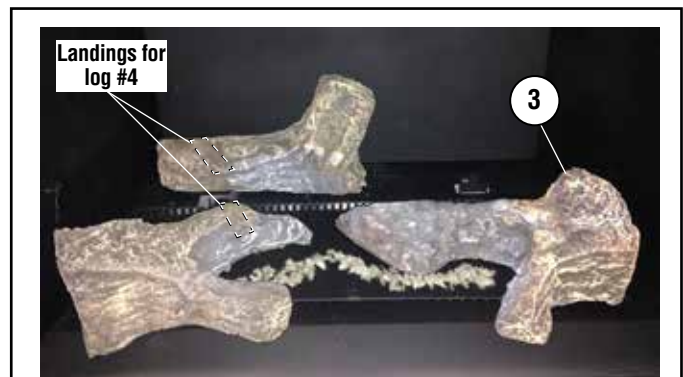

Figure 17 - Place log 3
6. Position the left cross log (4) on the landings on the left rear log (1) and the left front log (2) (see Figures 17 and 18).